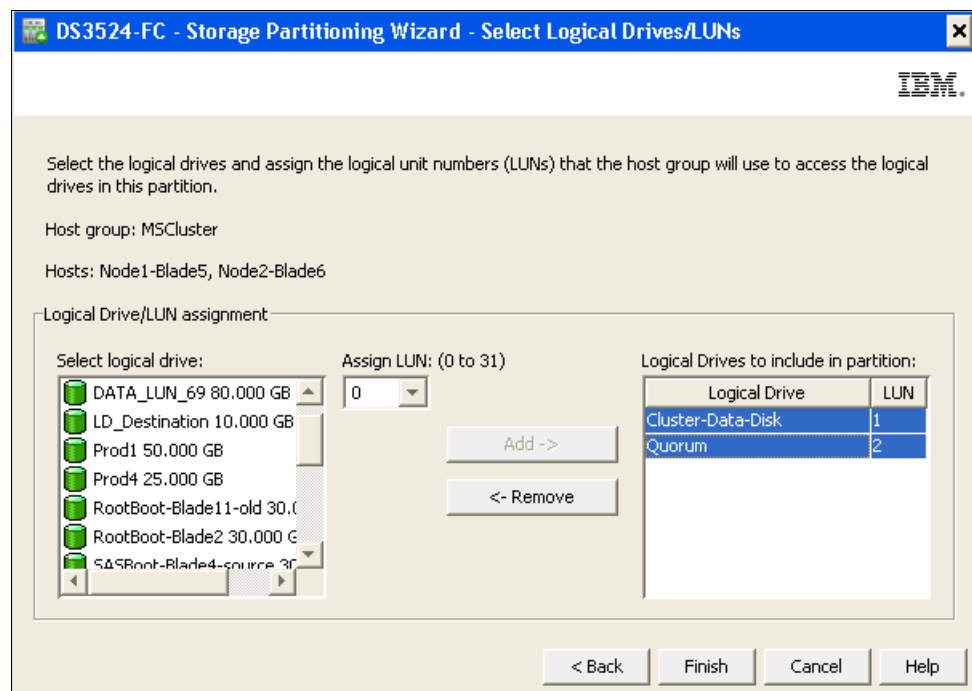

Figure 19-6 Storage Partitioning Wizard
7. Select the logical drives and assign the logical unit numbers (LUNs) that the host group will use to access the logical drives in the partition as shown in Figure 19-6